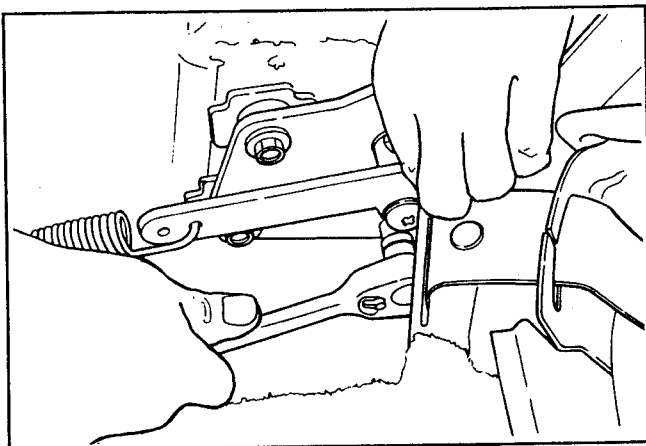

Figure 38. Tighten Balance Link
4. Push the balance link down one more notch, then tighten the bolts (Fig. 38).